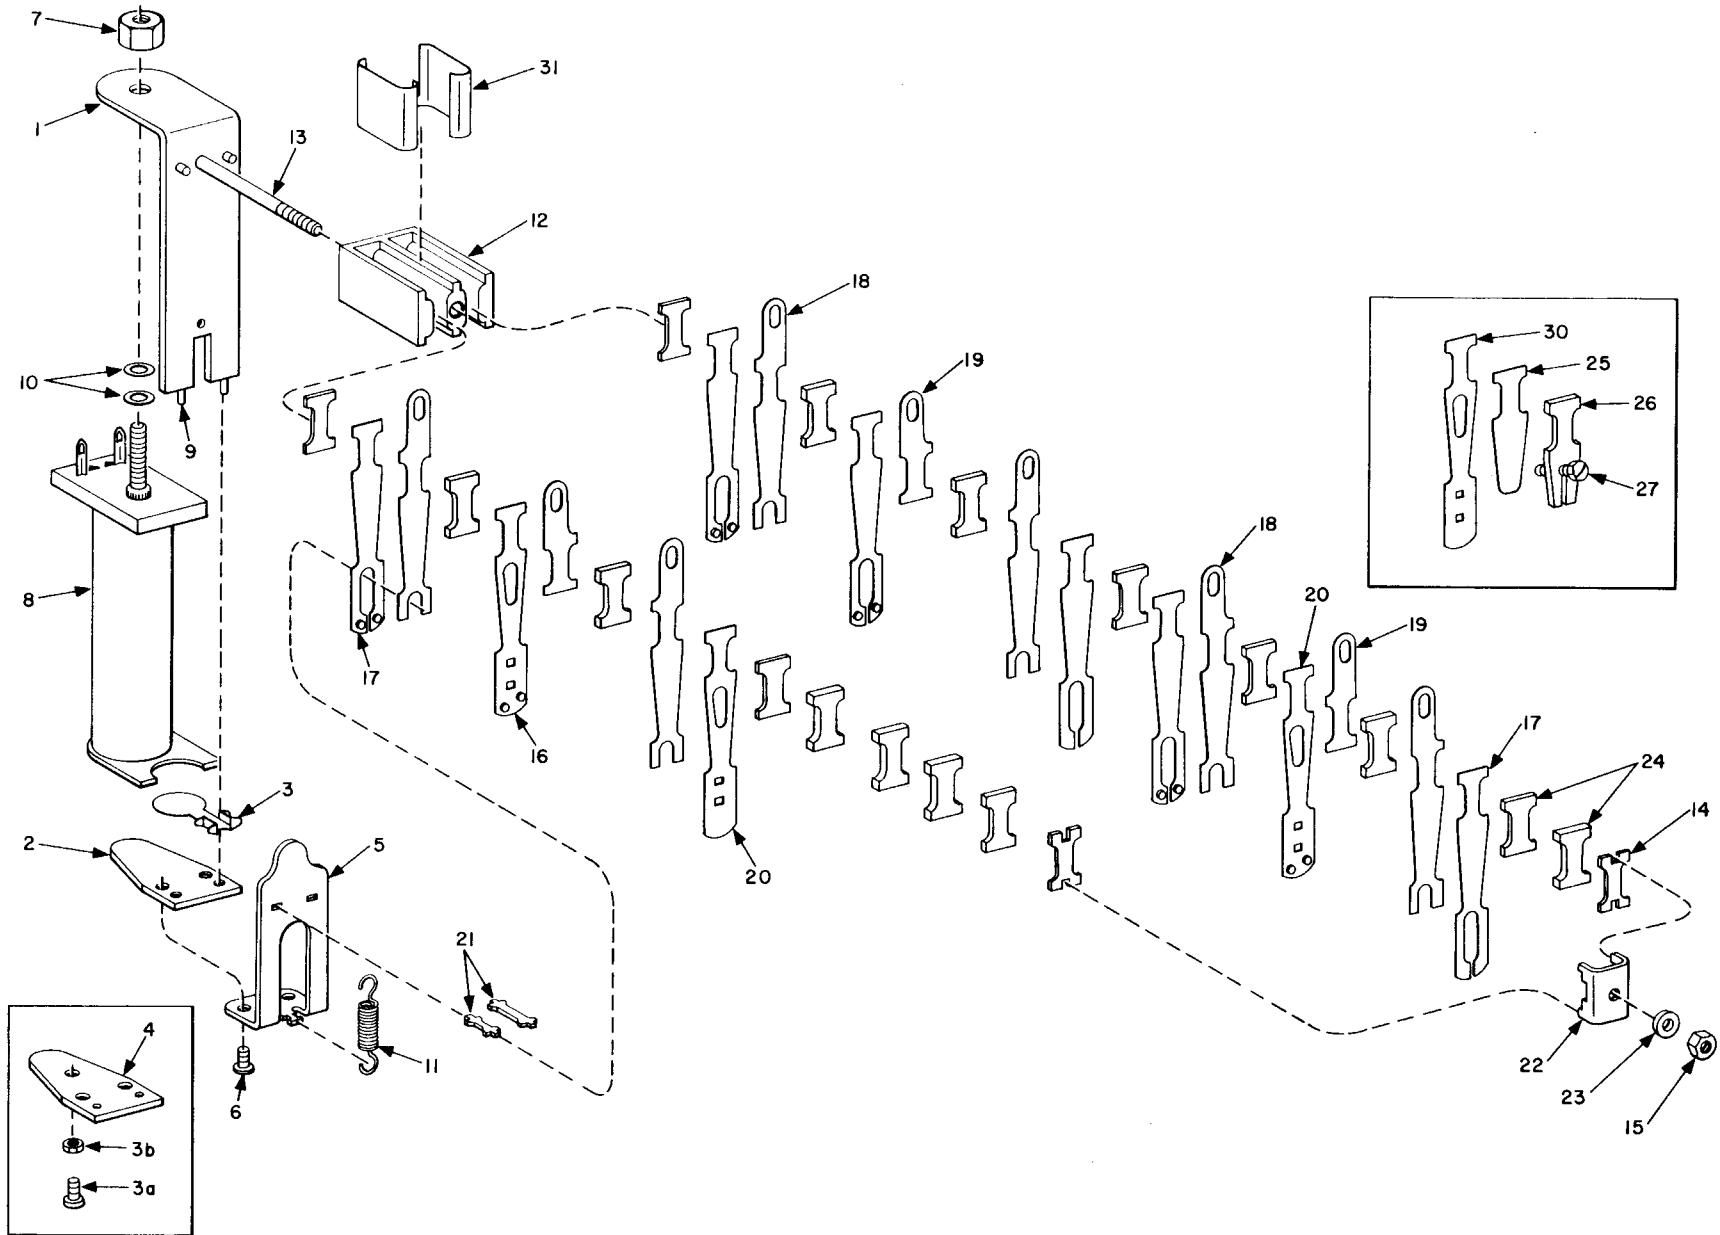

Fig. 1 — Gfeller Relay
2.01 Figures 1 and 2 illustrate the various parts of the relay and switch, respectively. Each part is labeled with a number for cross reference to the parts list (Table A or B).
2.02 Tables A and B provide the parts lists for the relays and switches, respectively, and give the number relative to Figure 1 or 2, name of part, part number, and a view of each part.